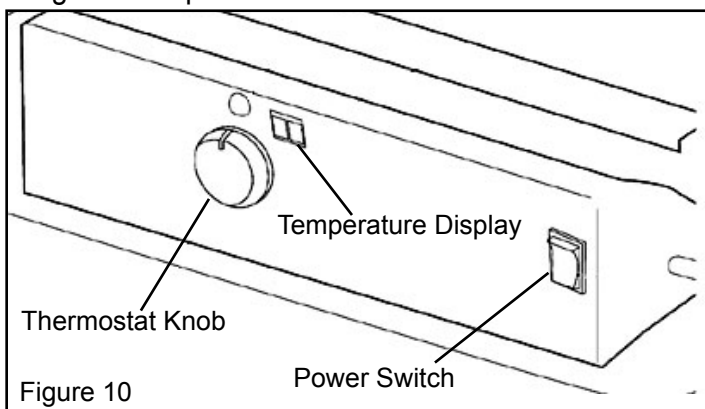

Figure 10
3. Move power switch to "On" position. The power indicator light and room temperature display will illuminate and heater will ignite. (See Figure 10)